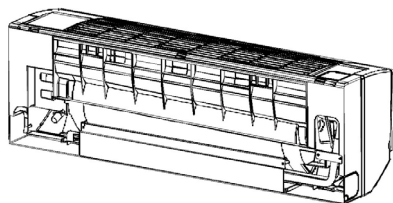

Figure 4.4
- 3 Install the pipe holder (Figure 4.4).